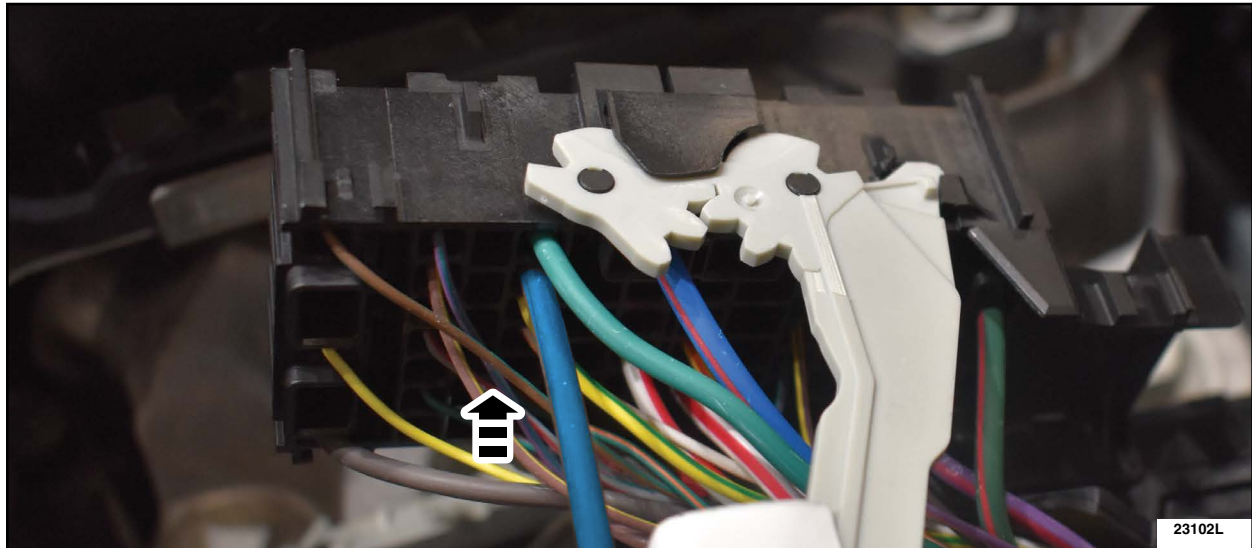

FIGURE 11
14. Insert new terminal into Cavity 33. Position the terminal gap down and push until a click sound is heard. Set the TPA back into position. See Figure 11.